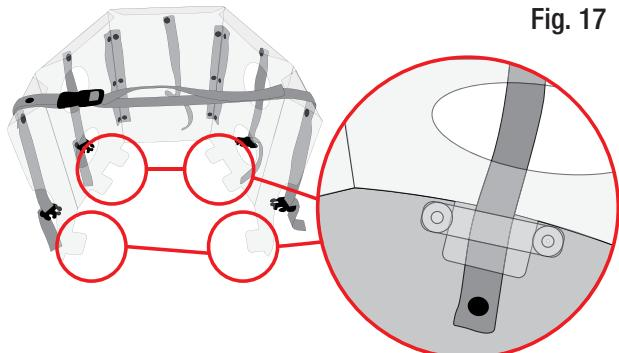

Fig. 17
- insert the fins into the slots provided (fig. 17),